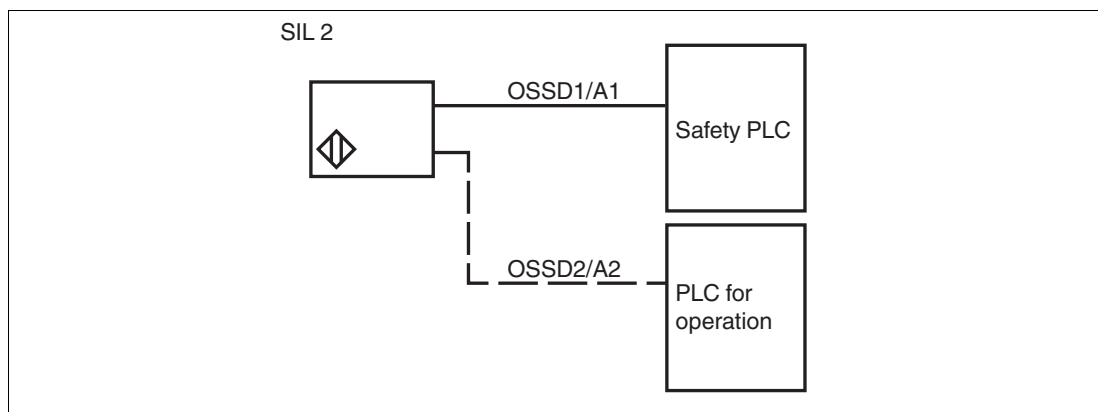

Figure 4.4 Example of a safety loop via the OSSD1 output
- If you are using the sensor in a safety loop for SIL 2, connect the sensor via the OSSD1 output, see Figure 4.4. The OSSD2 output is not used for the safety function. Protect possibly not connected output lines against short circuit.